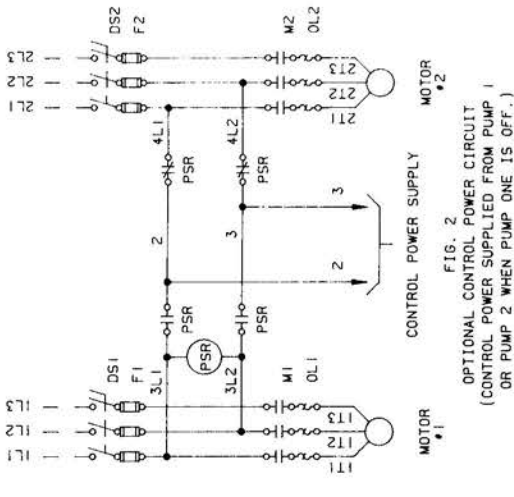

FIG. 2
(TYPICAL WITH FIG. 1 & FIG. 2)
- PSR POWER SWITCHING RELAY (WITH FIG. 2)